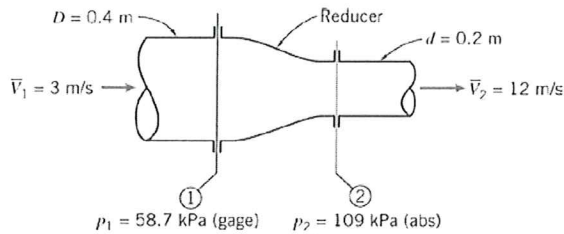

Figure 6
6. A reducer in a piping system is shown in figure 6. The internal volume of the reducer is 0.2 m^3 and its mass is 25 kg . Evaluate the total force that must be provided by the surrounding pipes to support the reducer. The fluid is gasoline.